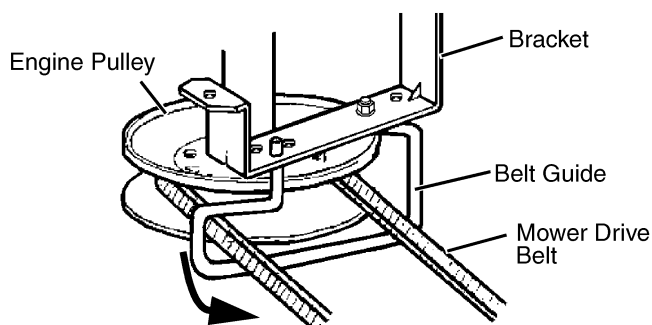
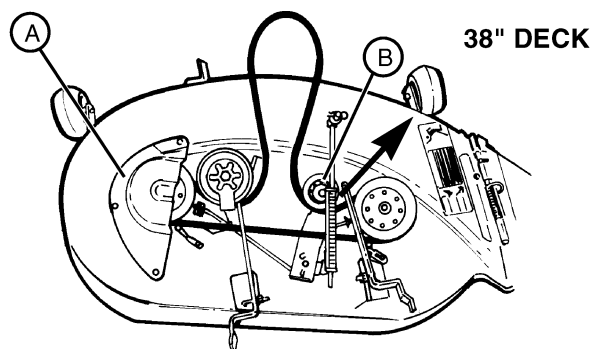
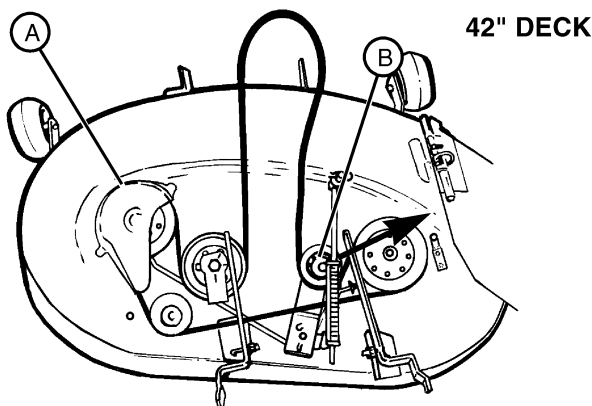
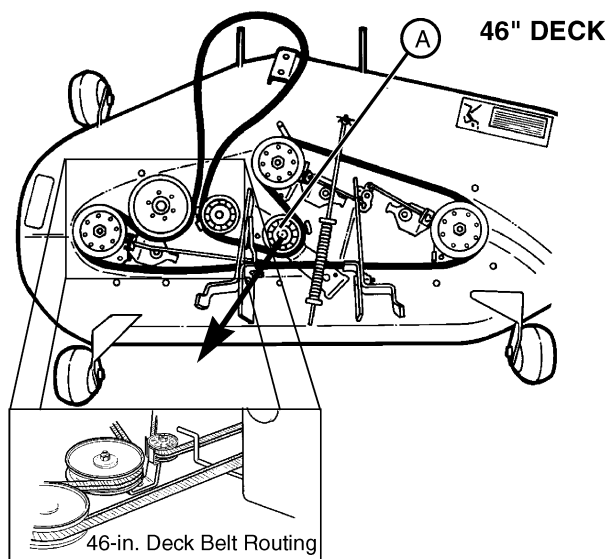

FIG. 38
FIG. 39
FIG. 40
FIG. 41
- Pull down on L.H. side of belt guide and rotate away from engine pulley. (See FIG. 38) Install belt onto pulley and return guide to original position. Insure that the guide is seated into the hole.
38 Inch Mower Decks: (See FIG. 38 and FIG. 39)
42 Inch Mower Decks: (See FIG. 38 and FIG. 40)
46 Inch Mower Deck: (See FIG. 38 and FIG. 41)